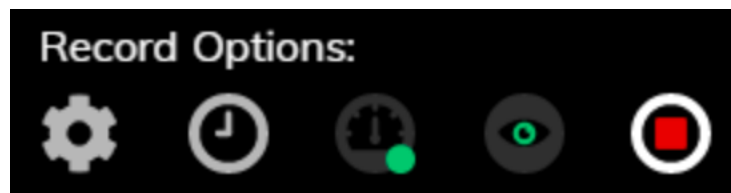

Figure 12
8. The "Record" button will change shape/color to indicate that a recording is in progress. This is shown in figure 12.